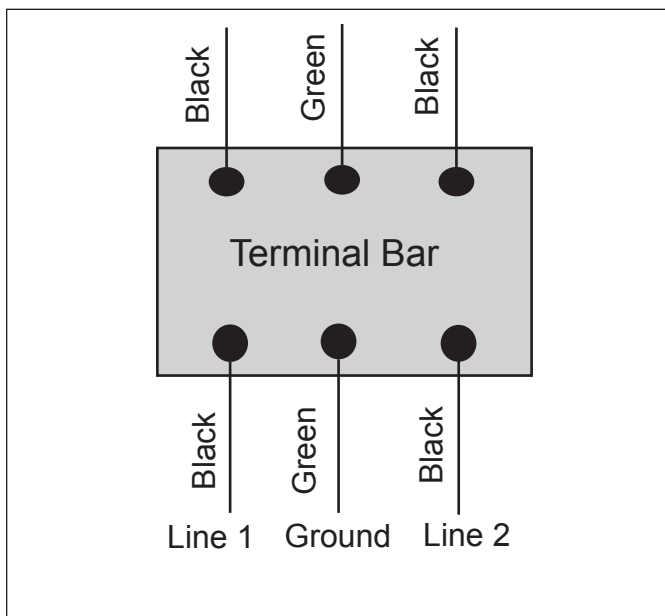

Figure 7. LX2 Factory Direct Wiring for 220 Volt Unit
- a. For 220 volt operation, connect one (1) of the black wires to line 1 and the other black wire to line 2. See Figure 7.